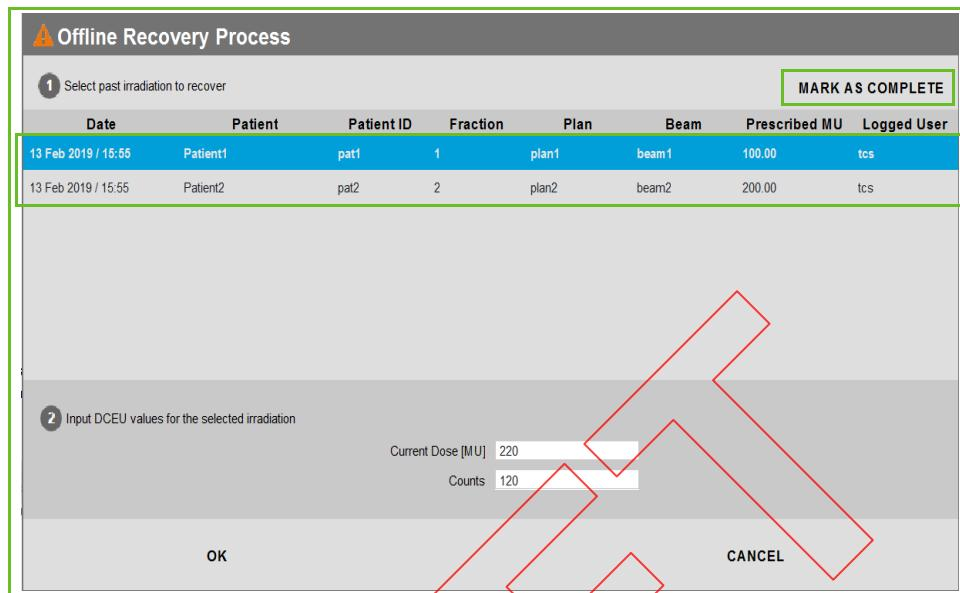

Figure 39-13. Recovery after termination by PTS - Automatic data recovery information (offline)
2. The popup **Offline Recovery Process** appears (Figure 39-13), showing the list of unrecovered partial irradiations in the adaPTdeliver database.